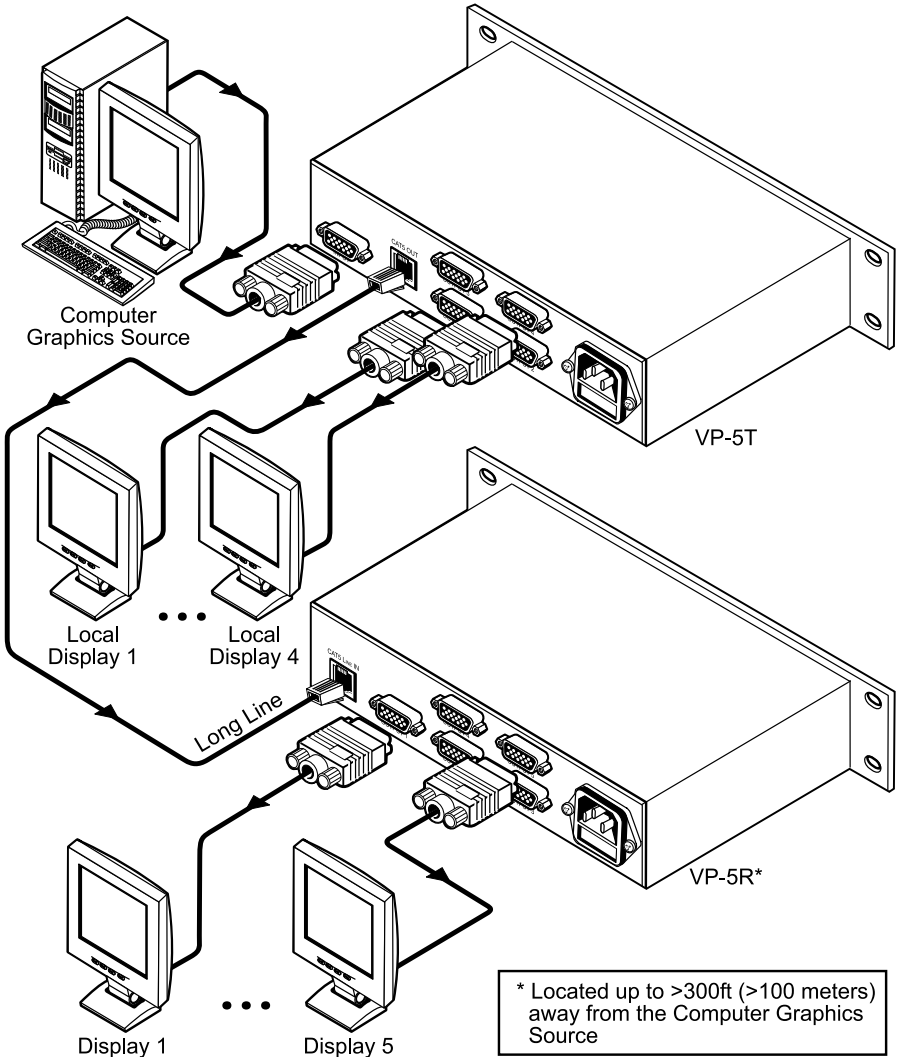

Figure 10: Connecting the VP-5T and the VP-5R
To connect the **VP-5T** with the **VP-5R**, as the example in Figure 10 illustrates, do the following:
4. Connect the power cord2 (not illustrated in Figure 10) to the **VP-5T**, and connect the other power cord2 to the **VP-5R**.